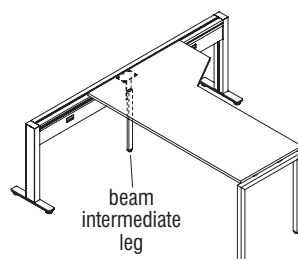

Figure 8
- If a standard rail assembly is to receive an extended return worksurface, the worksurface may be placed in any location along the rail assembly and meet the requirements for stability. If the extended return worksurface is more than 6" away from the end of the rail, the rail assembly will require a beam intermediate leg to be installed to the beam of the rail assembly (Figure 8).